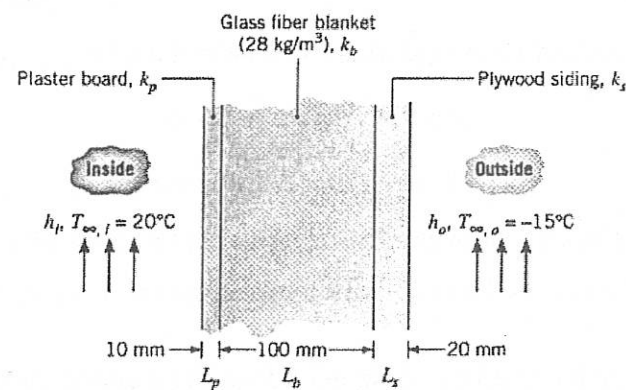

Figure 1.
11. (a) A house has a composite wall of wood, fiberglass insulation, and plaster board, as indicated in the figure 1. On a cold winter day, the convection heat transfer coefficients are $h_o = 60 \text{ W/m}^2 \text{ K}$ and $h_i = 30 \text{ W/m}^2 \text{ K}$. The total wall surface area is 350 m^2 .